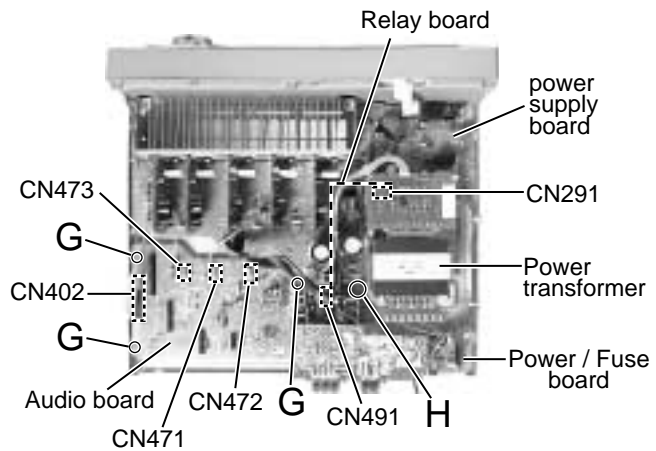

Fig.9
■ Removing the audio board (See Fig.9)